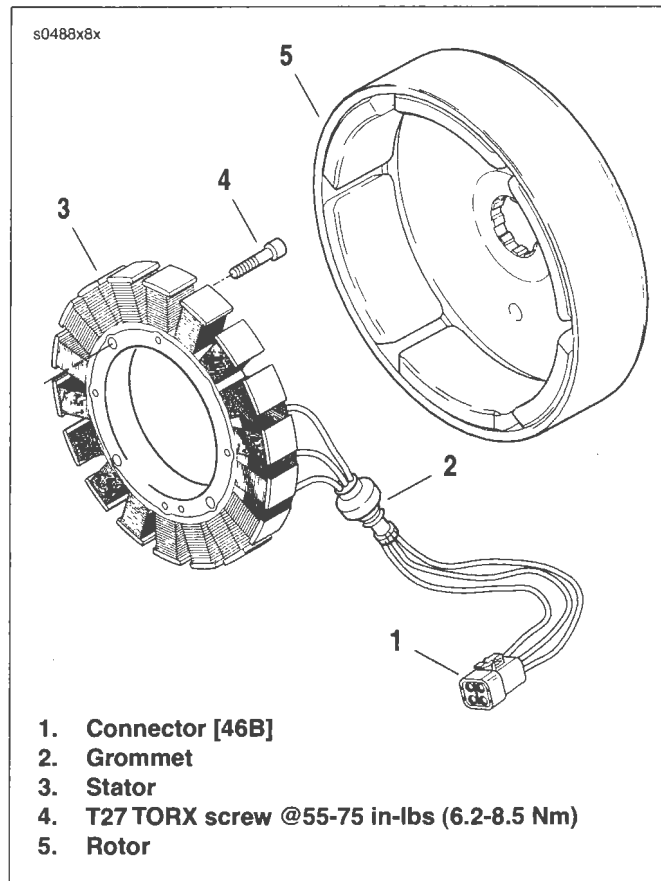

Figure 8-18. Rotor and Stator Mounting
3. See Figure 8-18. Pull off the alternator rotor (5) using two bolts inserted through the holes in the rotor face.
4. Remove the T27 TORX screws (4). Unplug the voltage regulator and remove the stator (3).
7. Remove secondary locks and wires (pull) from connector (1) [46B].
2. See Figure 8-18. Push rubber grommet (2) through crankcase hole. If necessary, apply the same lubricant used during removal.
3. Insert wires into connector [46B] (1).
6. Install the stator (3) on the crankcase and fasten in place using **new** TORX screws. Tighten to 55-75 **in-lbs** (6.2-8.5 Nm).
7. Install the rotor (5) on the sprocket shaft.